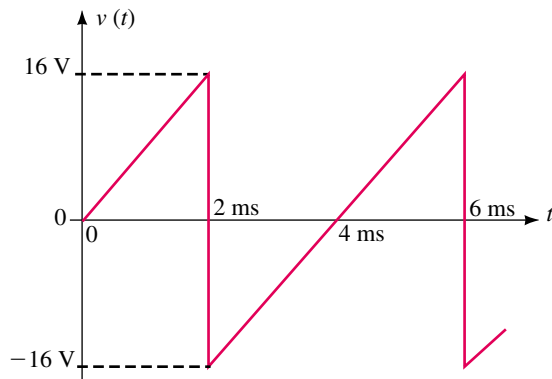

FIGURE 25-52
7. Use Table 25-1 to determine the Fourier series for the waveform of Figure 25-52.